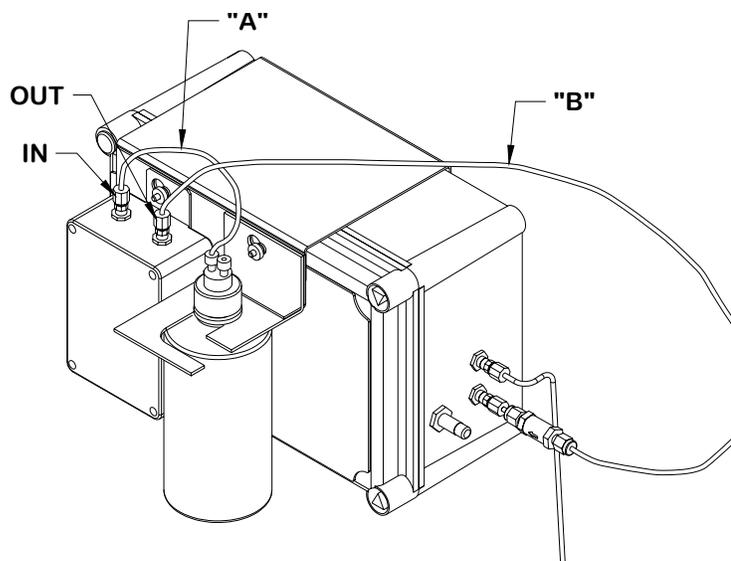

Figure 9
5. See Figure 9. Clean Tube A using de-ionized or process water (water to be tested).